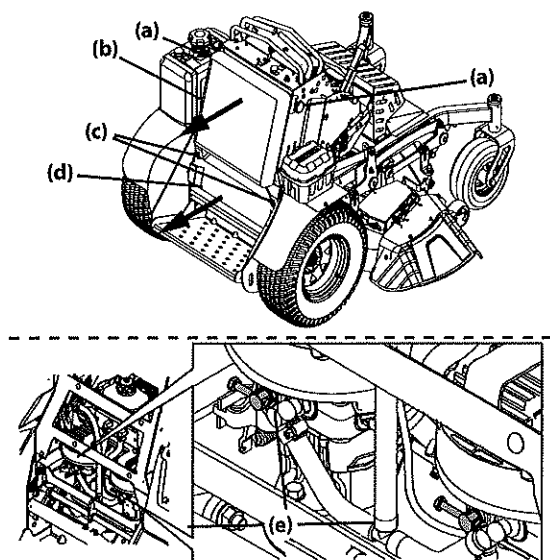

Figure 21
1. Loosen the two star knobs (a) securing the leg pad (b) to the mower. See Figure 21.